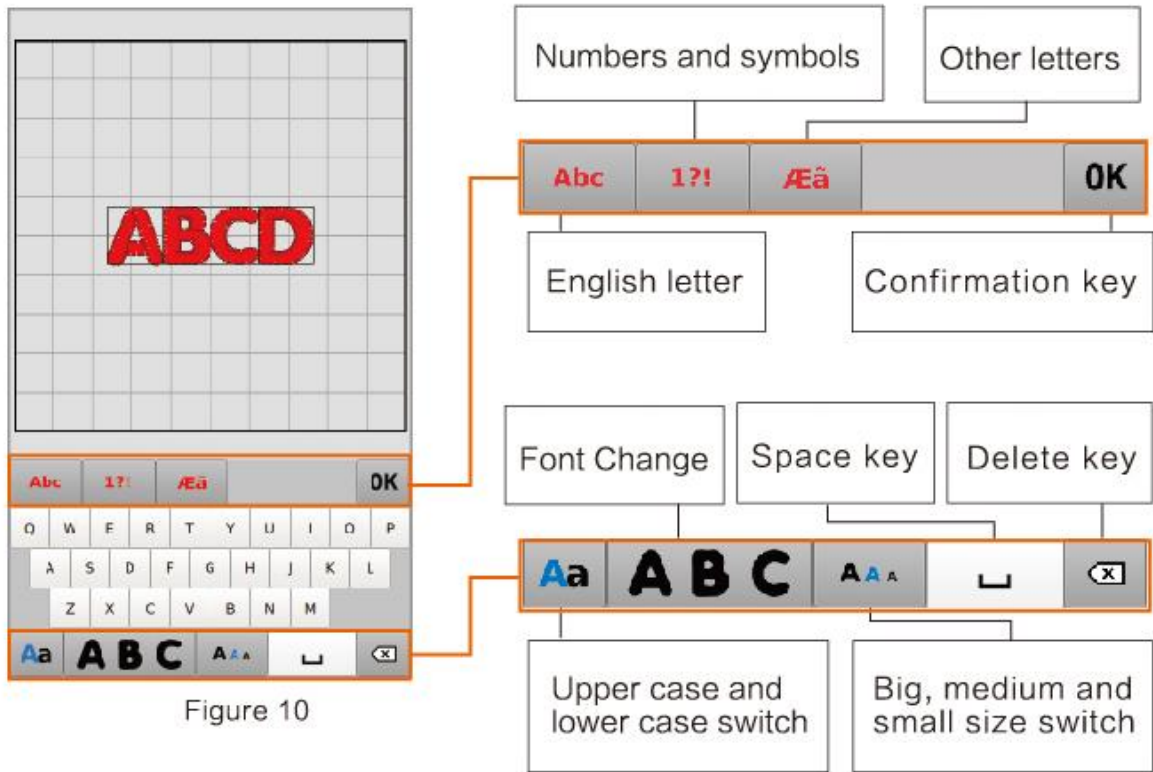

Figure 10
② Click one of the eight fonts to enter the interface in Figure 10, enter letters, numbers, symbols, etc., and press confirmation.